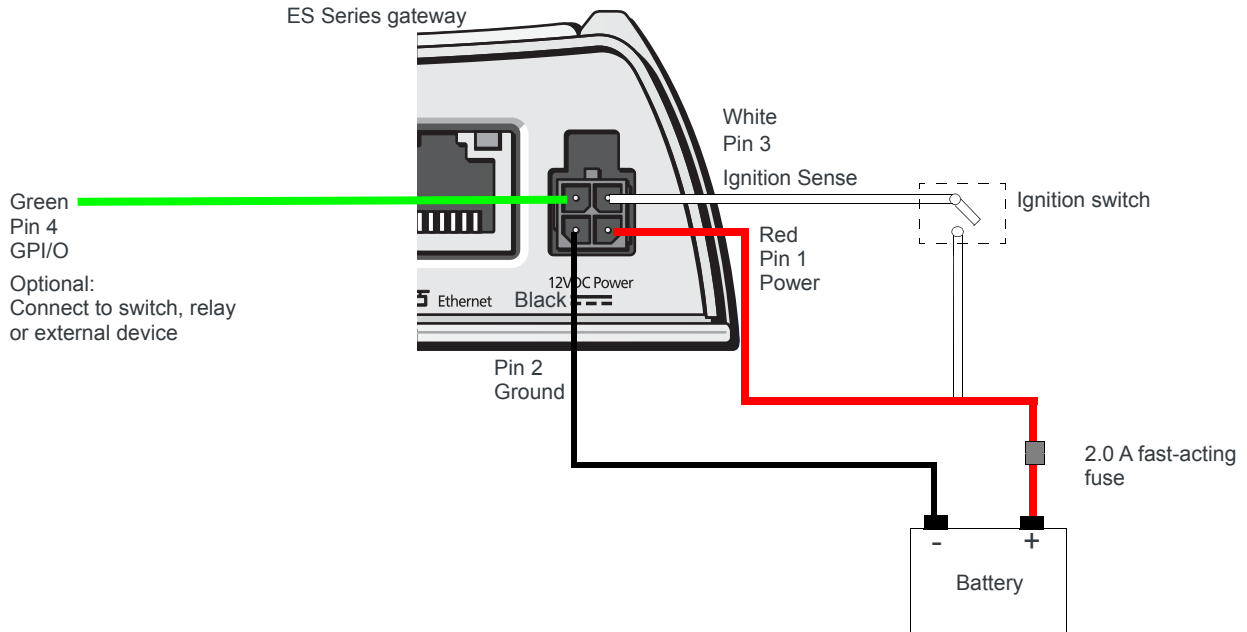

Figure 3-3: DC power cable connections (Colors indicate DC cable wire colors.)
*Note: Sierra Wireless strongly recommends that you use an unswitched VCC, with Pin 3 (white wire on DC cable) connected to the ignition (if you want the ES gateway on when the ignition is on) or connect it to a low voltage monitor (when you want the ES gateway to turn off when the voltage drops below a defined level. See Figure 3-3 on page 37. This is particularly important for when the input power supply is not constant, such as vehicle installations.*
See Figure 3-3 and Table 3-2.
For DC installations, Sierra Wireless recommends fusing the power input using a 2.0 A fast-acting fuse. Install the fuse on the positive line, as shown in Figure 3-3 on page 37.